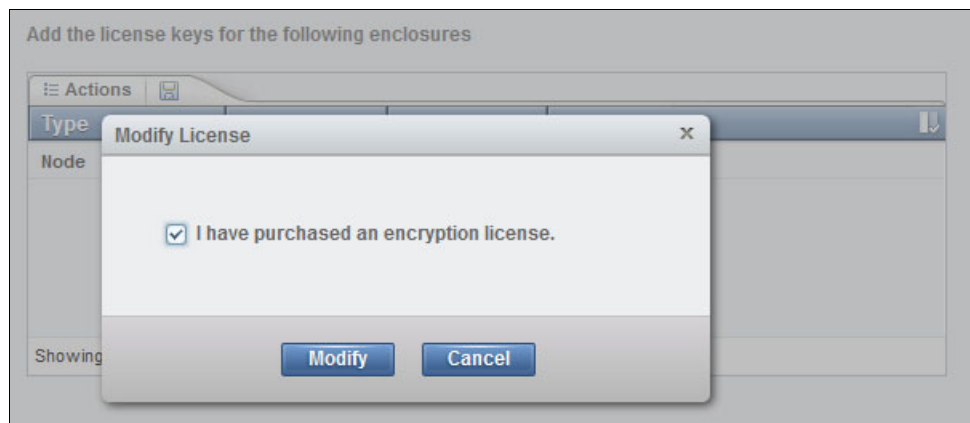
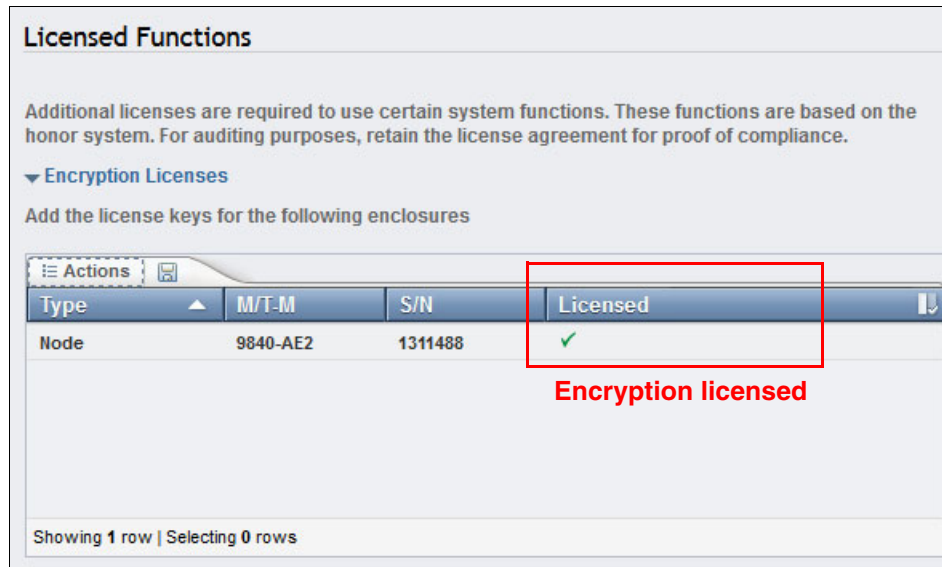
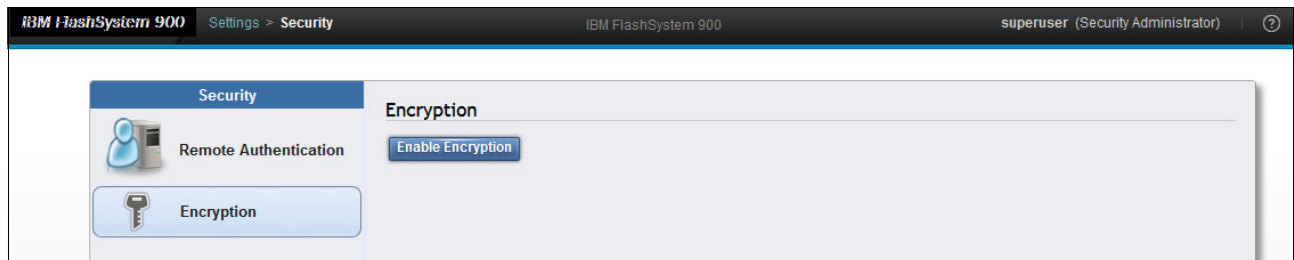

Figure 7-33 Modify license
Figure 7-34 Encryption license is now enabled.
Figure 7-35 Enable encryption
The encryption license is currently not enabled which shows a blank because **Licensed** is not selected. The Licensed column is not a modifiable column. To enable the encryption license, follow the next steps (shown in Figure 7-33, Figure 7-34 on page 256, and Figure 7-35 on page 256). After those steps are complete, a green check mark is indicated under the Licenses column.
2. Click **Actions** → **Modify License**. In the Modify Licenses window (Figure 7-33), select **I have purchased an encryption license** and click **Modify**.
When you return to the Licensed Functions window, the encryption license is now installed and ready for use (Figure 7-34).
1. To enable encryption, click **Settings** → **Security** → **Encryption** and click **Enable Encryption** (Figure 7-35).